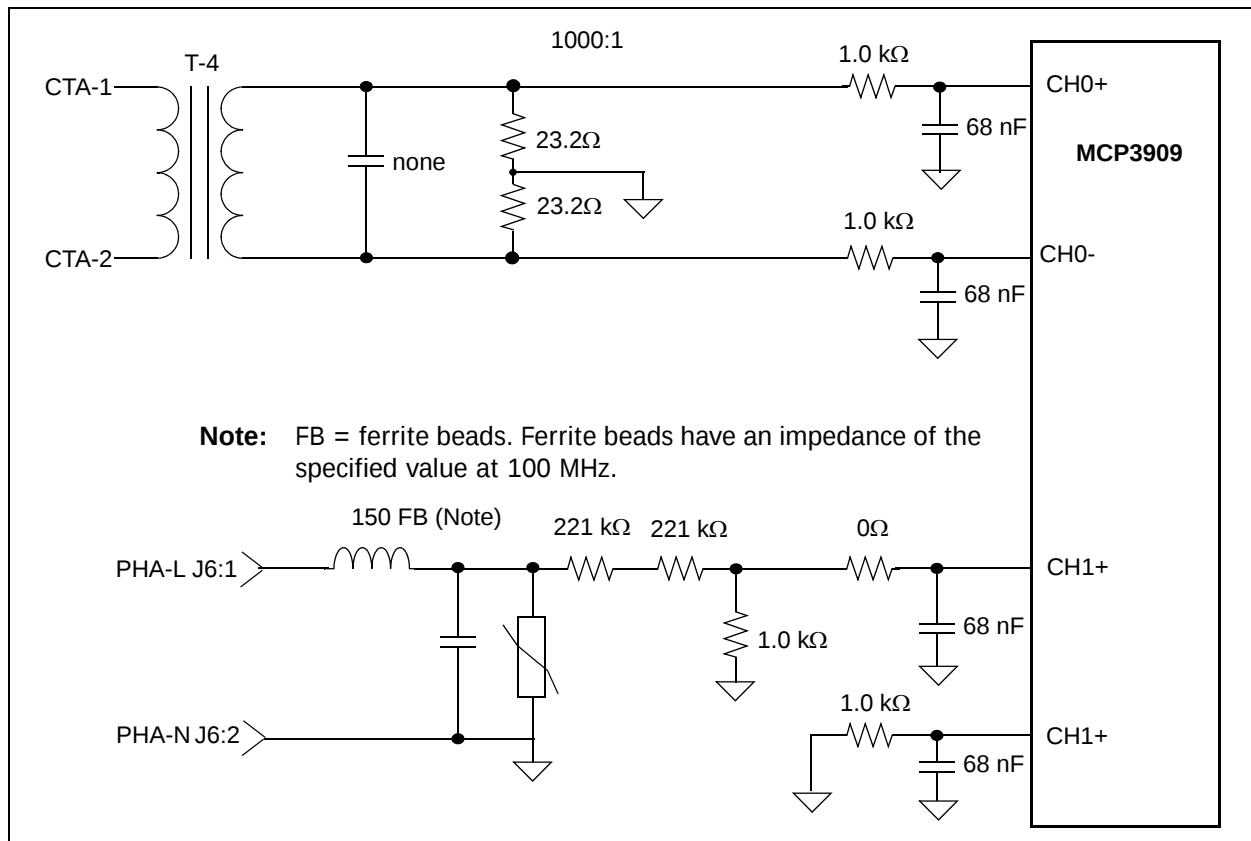

FIGURE 2-1: Analog Front End, Phase A Connections and Reference Designators shown.
3. **Section 2.1 “Input and Analog Front End”**: Added note for revision 2 hardware. Changed values of resistors in text and Figure 2-1.